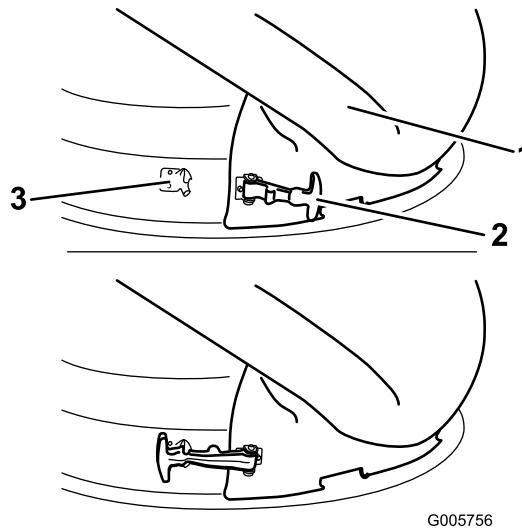

Figure 24
4. Secure the chute to the 50 inch deck. Hook the flexible latch on the chute to the retaining clasp welded on the mower deck to the rear of the opening (Figure 24).